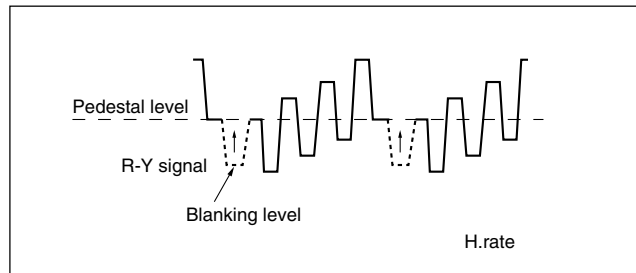

Fig. 3-6-4 DEMOD Fo-2
- (3) Connect an oscilloscope to TP5 round (B-Y), and adjust L2 so that the blanking level of the B-Y waveform is equalized to the pedestal level as shown in Fig. 3-6-4.